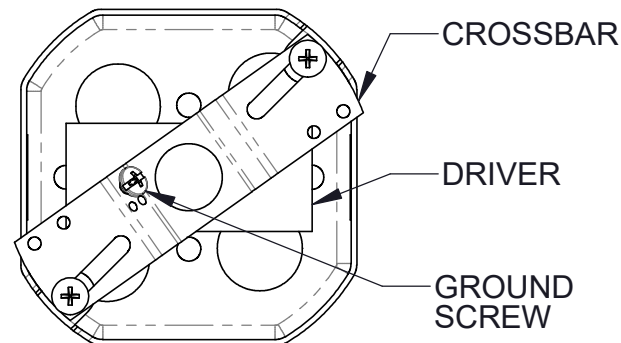

FIGURE 9. JUNCTION BOX, CROSSBAR, GROUND SCREW (GREEN), AND A DRIVER SECURED (5A CANOPY)
3. ATTACH THE CANOPY CROSSBAR (**FIG. 9**) TO A CEILING JUNCTION BOX WITH TWO SCREWS (SUPPLIED BY OTHERS).
4. FASTEN THE POWER WIRES (**FIG. 9**) FROM THE JUNCTION BOX TO THE LED DRIVER.
*IF 5A CANOPY, SECURE THE DRIVER INSIDE THE JUNCTION BOX WITH TAPE SUPPLIED, TAKING CARE NOT TO PINCH OR DAMAGE ANY WIRES (**FIG. 9**).*